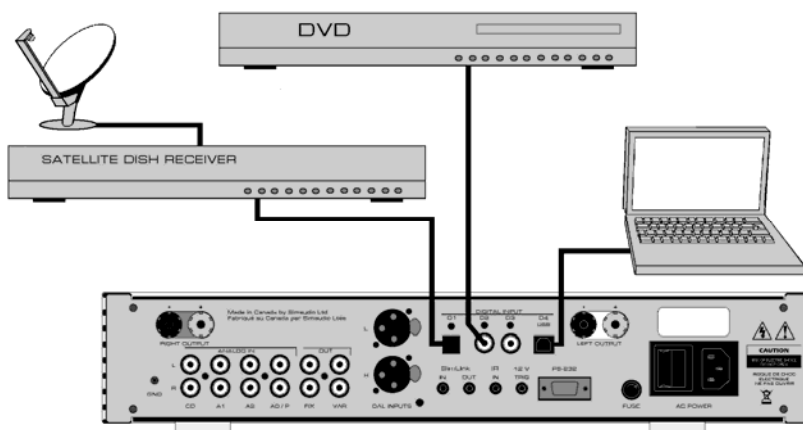

Figure 2: MOON i3.3 Optional Digital Inputs – connection examples
There are two (2) different settings available for setting the resistive load; 100 $\Omega$  and 47k $\Omega$  which are represented by jumper sockets R9 for the left channel and jumper socket R24 for the right channel (refer to figure 2 – section labeled "LOADING"). The factory default setting is 47k $\Omega$ , therefore both jumpers will be found in each of the two left most sockets.
There are two (2) different settings available for the capacitive load; 0pF and 100pF which are represented by jumper sockets C9 for the left channel and jumper sockets C17 for the right channel (refer to figure 2 – section labeled "LOADING"). The factory default setting is 100pF for a moving magnet cartridge, therefore both jumpers will be found in each of the two right most sockets.
There are two (2) different settings available for gain level. They are 40dB for MM cartridges and 60dB for MC cartridges, which are represented by jumper socket J17 for the left channel and jumper socket J22 for the right channel (refer to figure 2 – section labeled "GAIN"). The factory default setting is for a MM cartridge, therefore both jumpers will be found in each of the two right most sockets labeled MM; ***It is highly recommended that you do not use the jumpers labeled MC for an MM cartridge as this will overload the preamplifier.*** In the event that you're using a MC cartridge, you should insert the supplied jumpers into each of the two left-most sockets labeled MC.